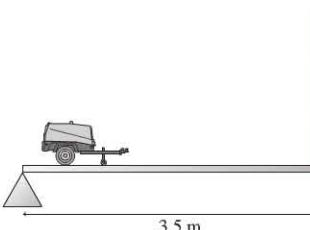

FIGURE P8.55
55. III Figure P8.55 shows a 100 kg plank supported at its right end by a 7.0-mm-diameter rope with a tensile strength of $6.0 \times 10^7 \text{ N/m}^2$. How far along the plank, measured from the pivot, can the center of gravity of an 800 kg piece of heavy machinery be placed before the rope snaps?